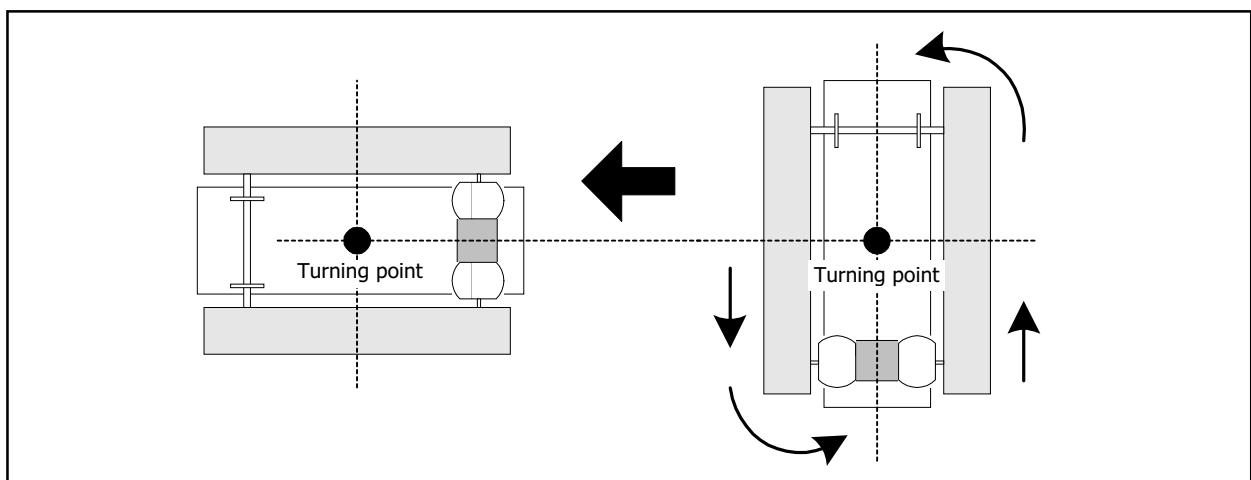

Figure A3-2 Turning method by driving both motors in opposite direction.
2. **Drive both motors in opposite direction** If the left motor drives forward and right motor drives backward, the robot will rotate right direction. If its in the opposite direction, the left motor drives backward and right motor drives forward. The robot will rotate left direction instead. In this method the speed of rotation will be increase 2 times and less friction. The turning point is center of robot body. See Figure A3-2.